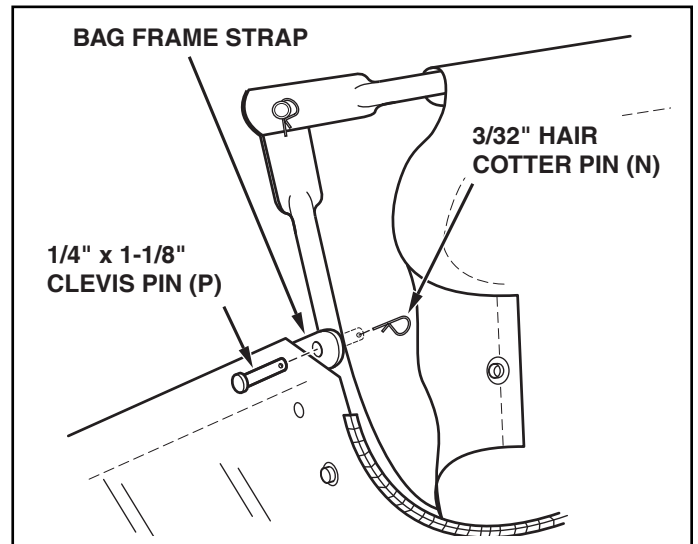

FIGURE 15
STEP 12: (SEE FIGURE 15 AND 16)
- Assemble the bag frame strap to the lower hopper side tubes using two 1/4" x 1-1/8" clevis pins (P) and 3/32" hair cotter pins (N).